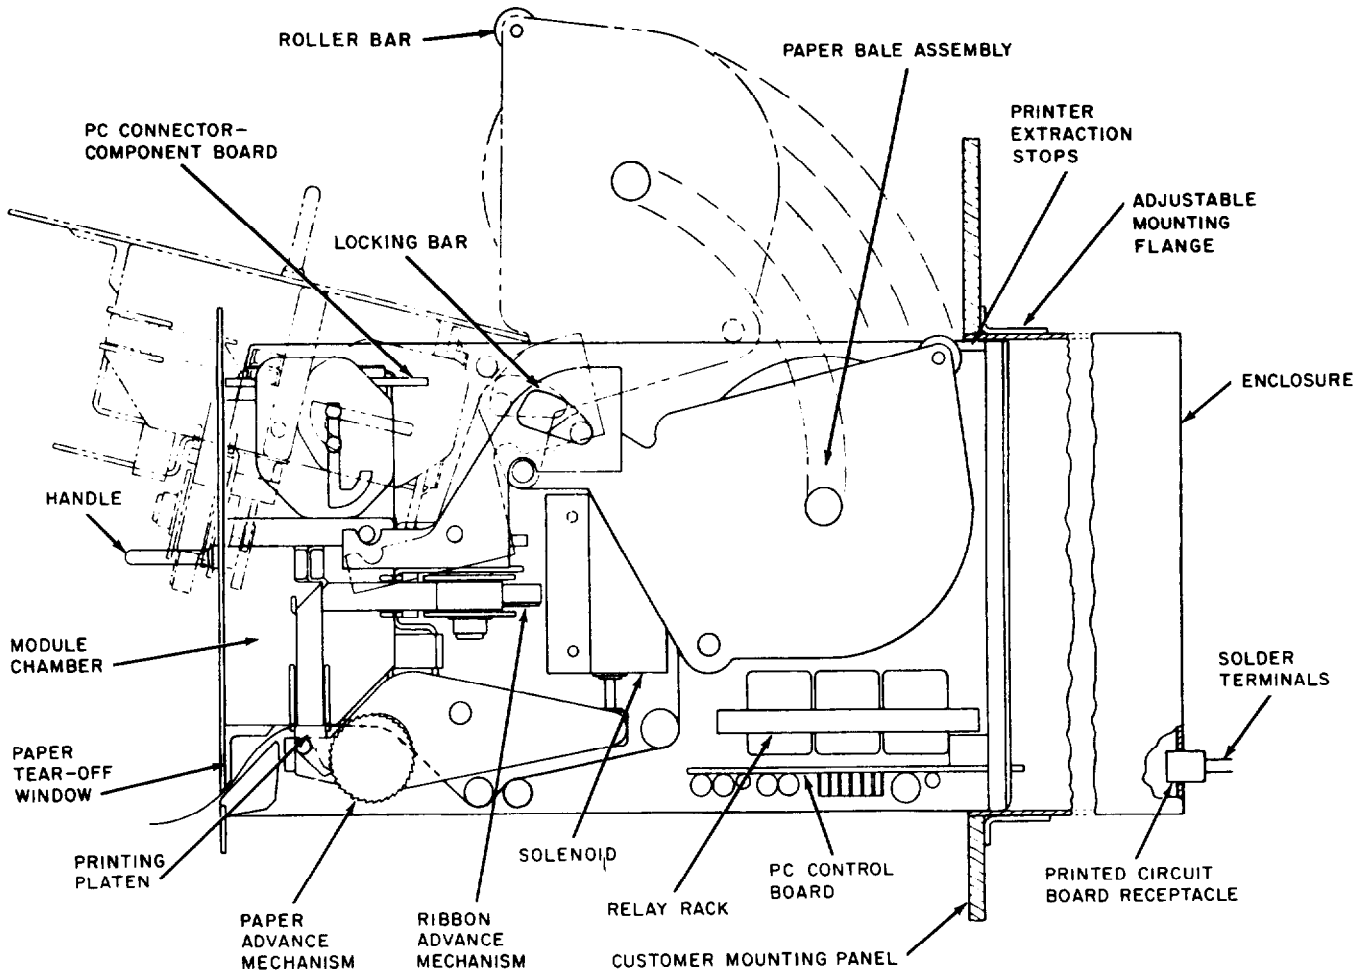

Fig. 1—Component Parts—KS-20537, L1 Moduprinter
2.04 Using Fig. 1 as a guide, perform the following operations:
- (1) With module chamber in open or horizontal position as shown in Fig. 1 and 3, remove bobbin retaining knobs.
- (2) Swing abrasive drive wheel against the smaller diameter bobbin. In order for the